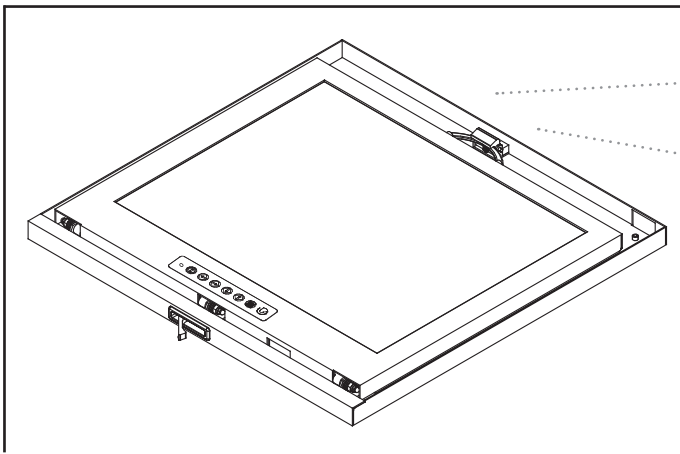

Figure 9.
■ The locking bracket will spring open in **Figure 9**.